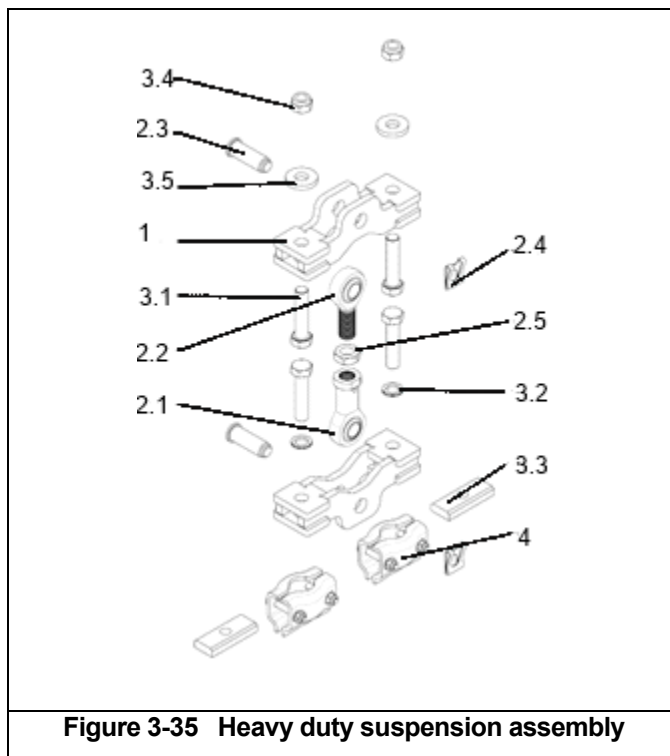

**Figure 3-33 Incorrect vs. correct track clamp installation**
**⚠ WARNING** Ensure track clamps are securely attached to enclosed track. There shall not be gaps between track clamps and mounting surface as well as no gap between the track clamp and rectangular nuts. See **Figure 3-33**.